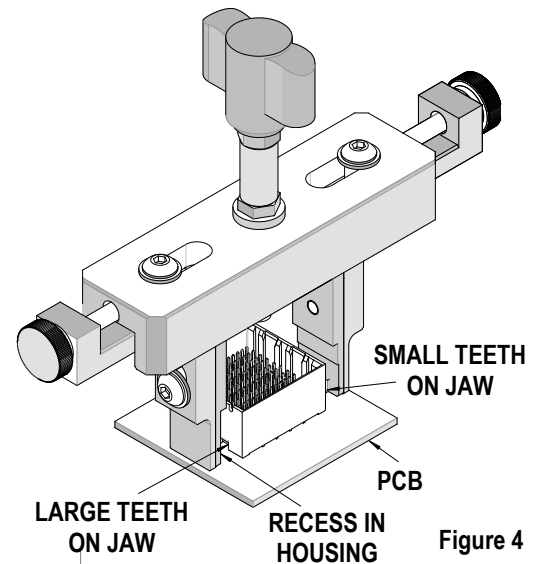

Figure 4
2. Move the tool down over the outside walls of the backplane housing. Note that the jaws have “teeth” that engage the recessed area of the housing (near the PCB surface). See Figure 4. The large teeth must engage in the large recessed area of the housing and the small teeth must engage in the small recessed area of the housing.